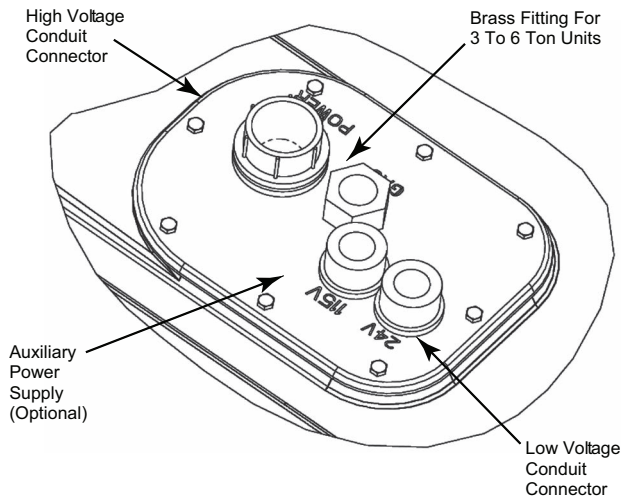

Fig. 1 — Thru-Base Gas Connection Fittings (Four Hole Cover Plate Shown)
The cover plate is located in the compressor compartment of the unit, directly below the control box. (See Fig. 1.) Remove the blank cover plate from the unit. Discard the blank cover plate but reserve the screws. Depending on the number of connectors required, select either the (3) hole or the (4) hole cover plate. Adhere the gasket to the underside of the selected cover plate. Attach the desired bulkhead connectors to the cover plate (see Table 4) and then, using the reserved screws, attach the cover plate with the bulkhead connectors to the opening in the basepan.
This service connection kit consists of a 1/2 in. electrical bulkhead connector and a 3/4 in. electrical bulkhead connector, all factory-installed in the embossed (raised) section of the unit basepan in the condenser section. The 3/4 in. bulkhead connector enables the low-voltage control wires to pass through the basepan. The 1/2 in. bulkhead connector allows the high-voltage power wires to pass through the basepan. (See Fig. 1.)